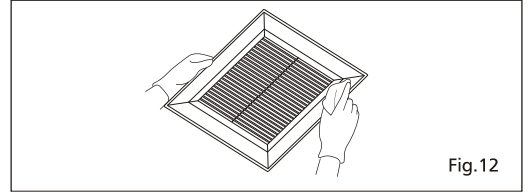

Fig.12
2. Clean grille. (Don't put into hot water. Use non-abrasive kitchen detergent, wipe dry with clean cloth) (Fig.12)